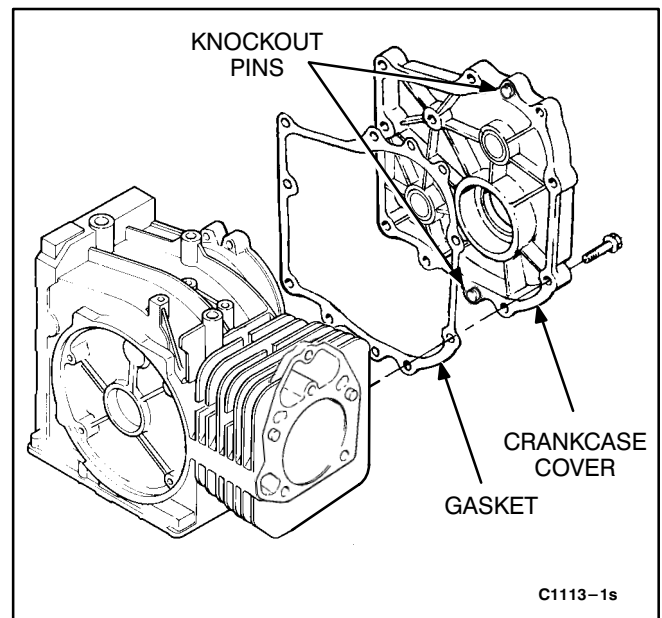

FIGURE 9-13. CRANKCASE COVER
1. The crankcase cover is located in two places with dowel pins (Figure 9-13). Do not attempt to pry the crankcase cover off or damage can result. Remove the crankcase cover mounting bolts. Hold the crankcase cover and lightly tap the end of the crankshaft with a plastic hammer.